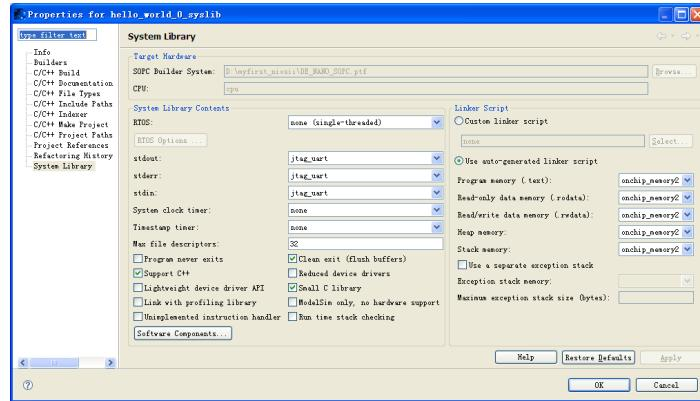

Figure 7-61 Configuring System Library Properties
3. In the **Linker Script** box, observe which memory has been assigned for **Program memory(.text)**, **Read-only data memory(.rodata)**, **Read/write data memory(.rodata)**, **Heap memory**, and **Stack memory**, see Figure 7-61. These settings determine which memory is used to store the compiled executable program. You can also specify which interface you want to use for stdio , stdin, and stderr. You can also add and configure an RTOS for your application and configure build options to support C++, reduced device drivers, etc.
4. Select **onchip_memory2** for all the memory options in the **Linker Script** box, as shown in Figure 7-61.